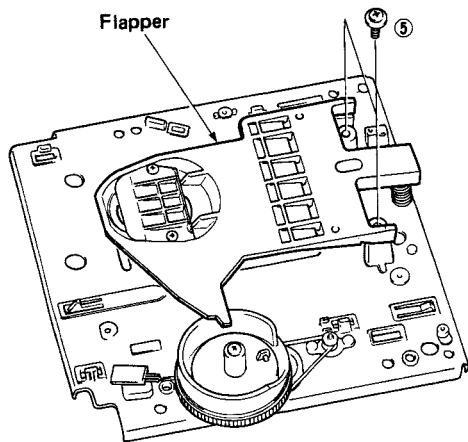

Fig. 5
- a. Remove 2 screws (⑤) fixing Flapper in Fig. 5 and then remove the flapper.